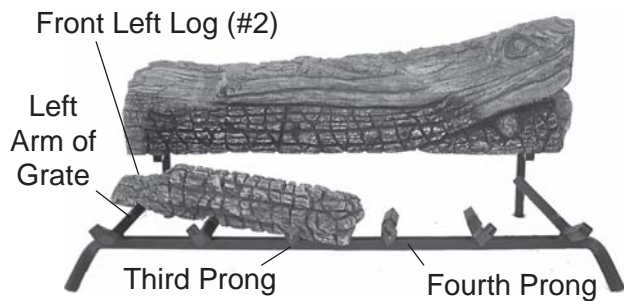

Figure 85 - Placing Front Left Log (#2) on Left Arm of Grate
3. Place Front Left Log #2 in front of back log on left arm of grate. Rest end of bottom left log between third and fourth prong of grate. *See Figure 85.*